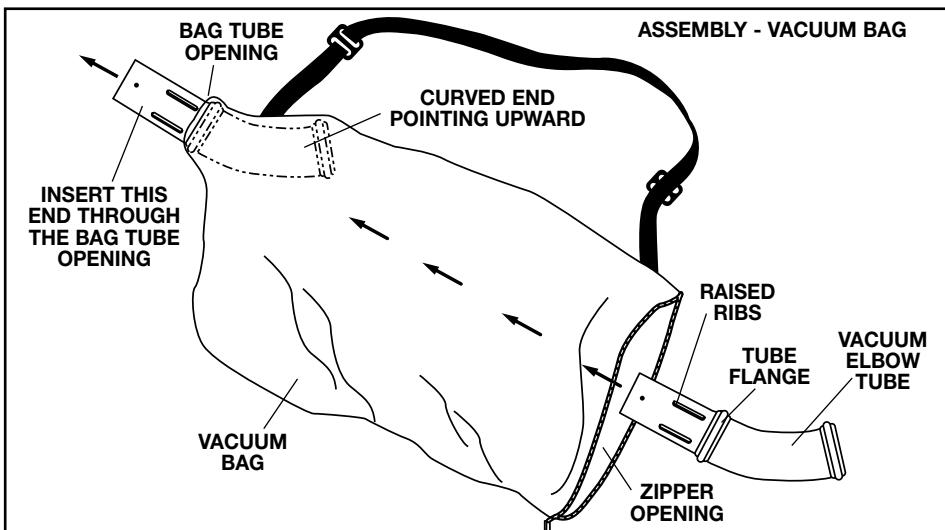

Fig. 10
NOTE: For electric vacuum kits, the shorter end of the vacuum bag elbow tube with the raised ribs should be inserted through the zipper opening (Fig. 10).
7. Insert the vacuum elbow tube through the zipper opening in the vacuum bag (Fig. 10), then through the bag opening in the other end of the bag, until the bag tube opening is seated against the tube flange.
- a. Remove the vacuum bag elbow tube. (Reverse the procedure shown in Fig. 10.)
- f. Reinstall vacuum bag elbow tube (Fig. 10).